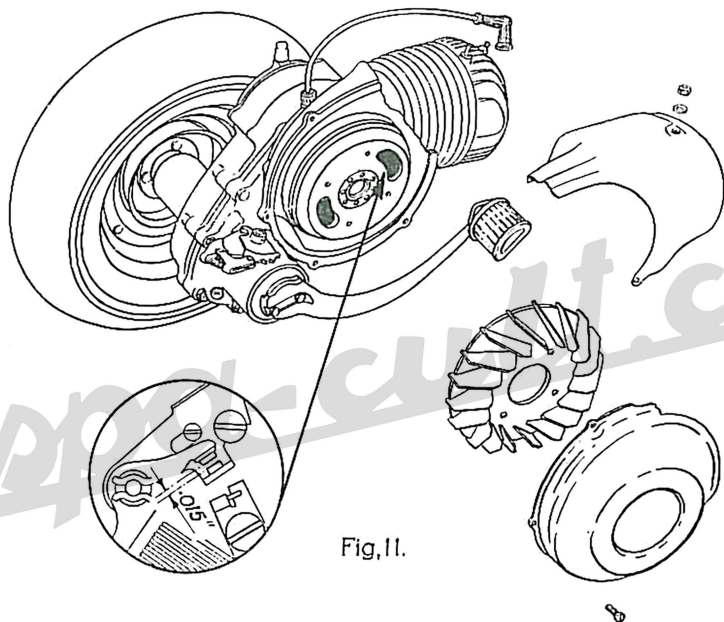

Fig.11.
5. Clean and adjust the contact breaker points of the flywheel magneto (see Fig. 11), to .4 mm. gap (.015 in.).